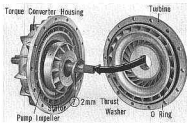

Fig. 7B-61
7. Arrange the lock plates around the torque converter and install the mounting bolts and torque uniformly in a diagonal pattern to the specified torquing value. (Fig. 7B-62)